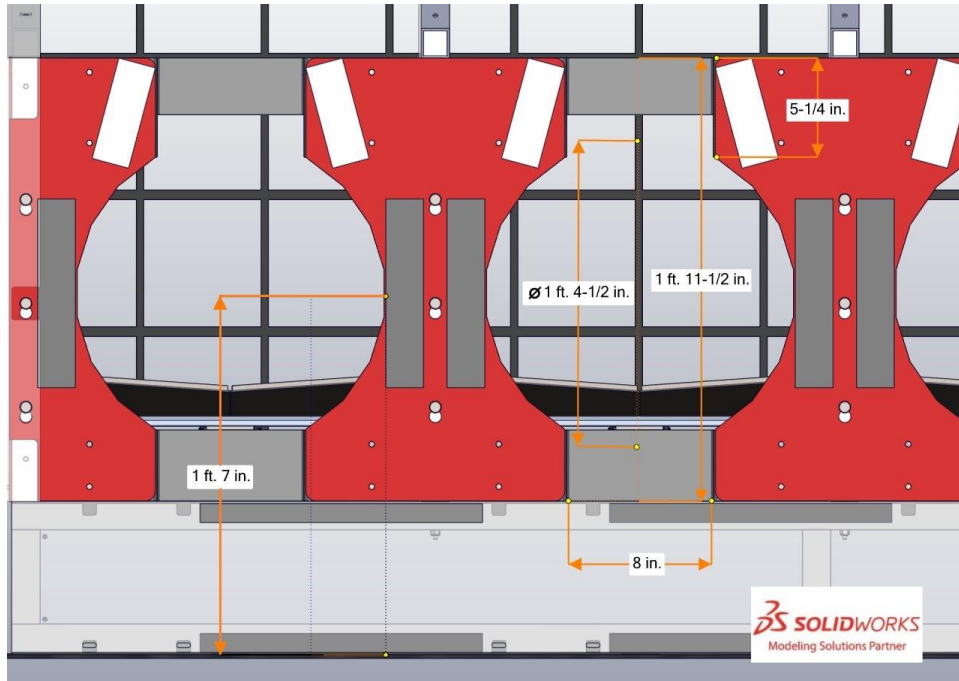

Figure 4-18 CARGO SHIP HATCH geometry and dimensions.
Each BAY has a CARGO SHIP HATCH for one (1) HATCH PANEL. CARGO SHIP HATCH geometry is similar, but not identical, to ROCKET HATCH geometry and is detailed below in Figure 4-18.